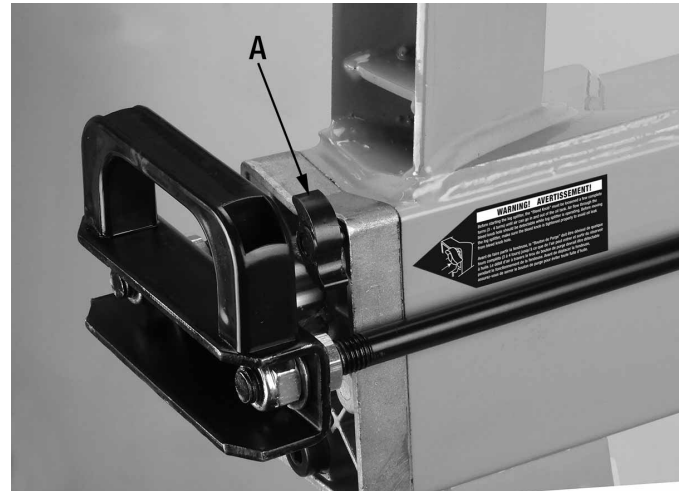

FIGURE 4
Before operating the log splitter, the bleed knob (A) Fig.4 MUST be loosened by some rotations until air can go in and out of the oil tank smoothly. Air flow through the bleed knob hole should be detectable while the log splitter is under operation. Before moving the log splitter, make sure the bleed knob is tightened to avoid oil leaking from this point.